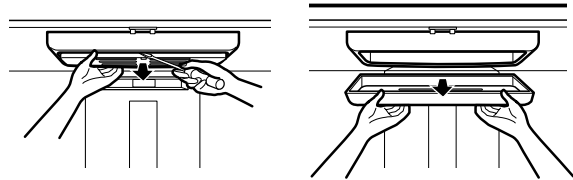

Figure 12
3. Using a flat instrument, gently pry the cover loose in the front as shown. (Figure12) Rotate downward to remove rear tabs.